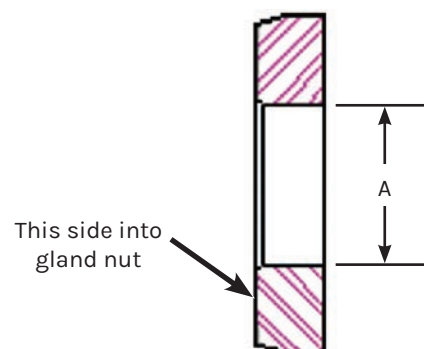

Figure 94: Guide Bushing Check (40K Only).
2. On 40K units, measure the diameter of the guide bushing (Figure 94, A). If the diameter exceeds the Dimension A specification listed in the “40K Guide Bushing Replacement Table” below, replace the bushing. If the bushing shows scoring or if the edge is chipped, replace the bushing.